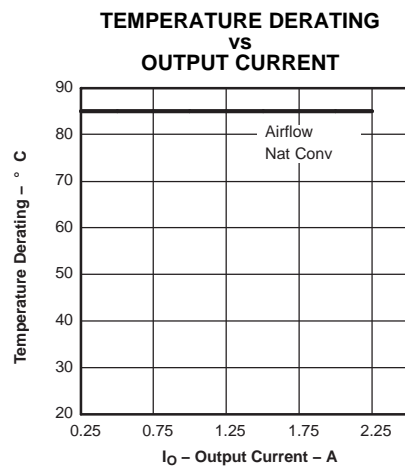

Figure 9.
- (2) The temperature derating curves represent the conditions at which internal components are at or below the manufacturer's maximum operating temperatures. Derating limits apply to modules soldered directly to a 100-mm × 100-mm, double-sided PCB with 2-oz. copper. Applies to Figure 9.